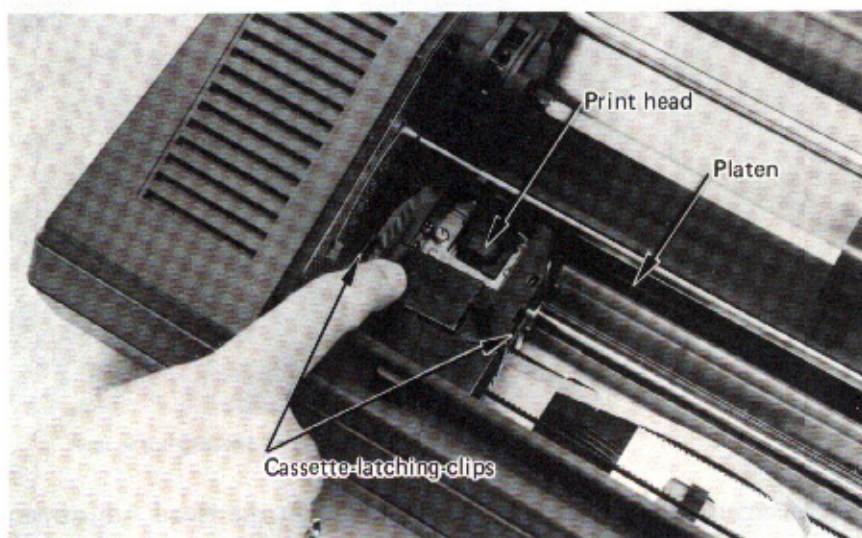

Figure 3
2. Place the cassette so that the ribbon slides in between the print head and the platen (see Figure 3), then place the cassette down into position between the latching-clips either side of the cassette.